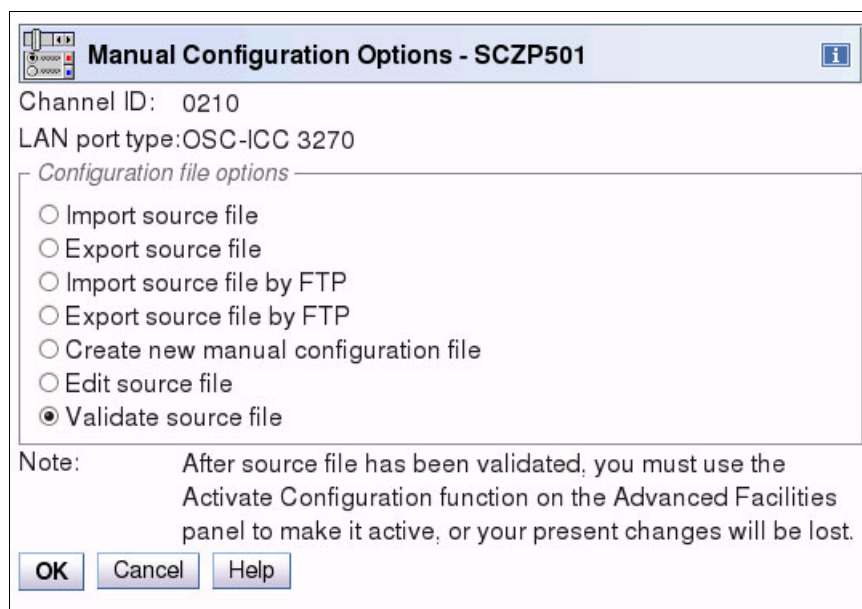

Figure 14-84 OSA Advanced Facilities: validate source file
1. In the Manual Configuration Options window, select **Validate source file** and click **OK** (Figure 14-84).